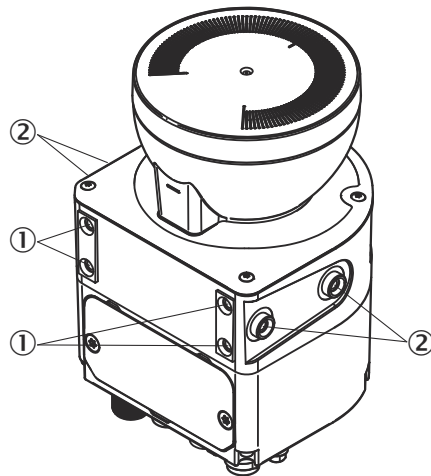

Figure 47: Mounting the safety laser scanner directly
- ① Rear M5 threaded hole
- ② Side M5 threaded hole
- ▶ Use either the rear or the side M5 threaded holes for direct mounting, see figure 47, page 68.